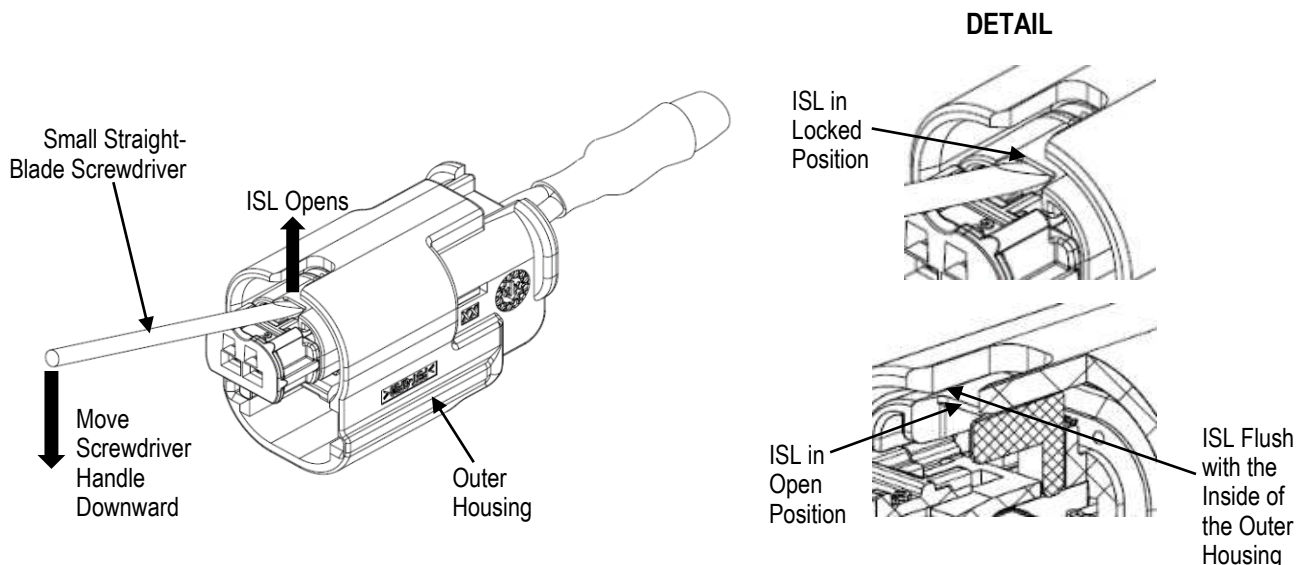

Figure 3
- a. Insert the tip of a small straight-blade screwdriver into the opening of the ISL. Gently move the handle of the screwdriver downward until the ISL is pried upward and free from the inside of the housing (see Figure 3). The ISL will move upward approximately 1.5 mm so that it is flush with the inside of the outer housing (see Figure 3 Detail). This is the “open” position and the ISL must be in this position before removing the terminals from the connector.